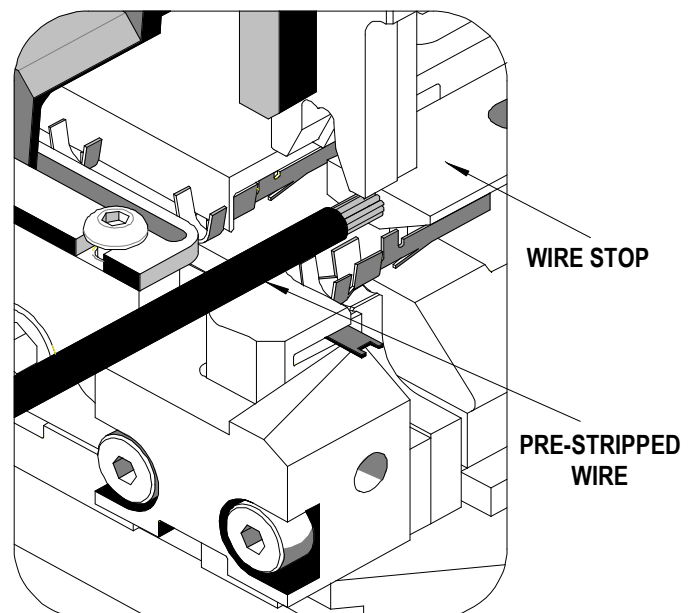

Figure 3-3
2. Place the prestripped wire through the slot in the press guard and push until it contacts the wire stop. See Figure 3-3.